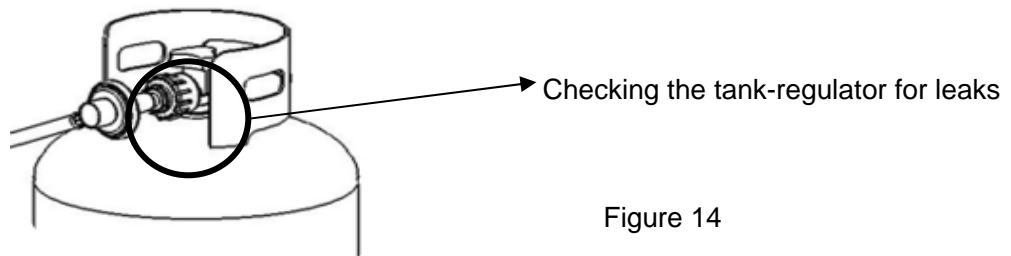

Figure 14
14. Open the tank valve. Apply a solution of soapy water to the tank-regulator connection and to the valve-hose connection to check for leaks as shown in Figure 14. If soap bubbles continue to form, the connection has a leak. If a leak is found, close the tank valve and tighten all connections.